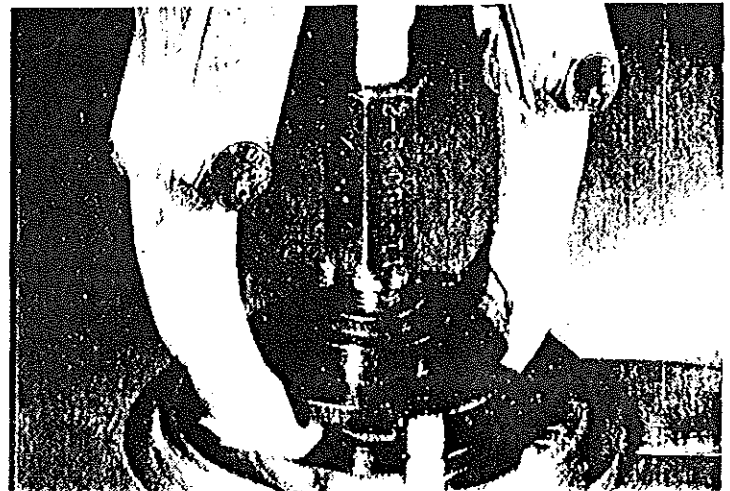

Figure 402. Removing Coupling Cam Assembly
- C. Thread appropriate protective cap of 11-702-1 Puller on end of shaft. Leave clearance between cap and cam. Engage puller over protective cap and cam assembly with wide jaws of puller hooked under cam assembly as shown in Figure 402.